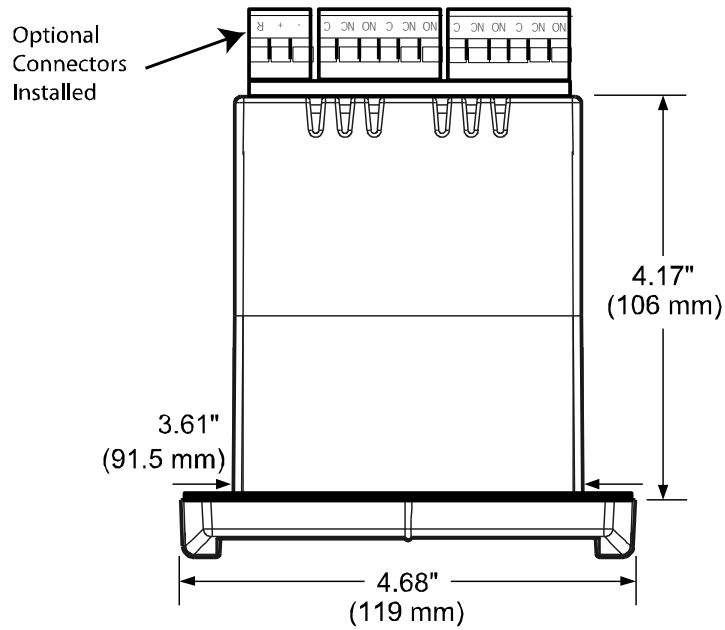

**Figure 1. 1/8 DIN Panel Cutout Dimensions & Panel Mounting Details**
- Prepare a standard 1/8 DIN panel cutout – 3.622" x 1.772" (92 mm x 45 mm). Refer to Figure 1 for more details.